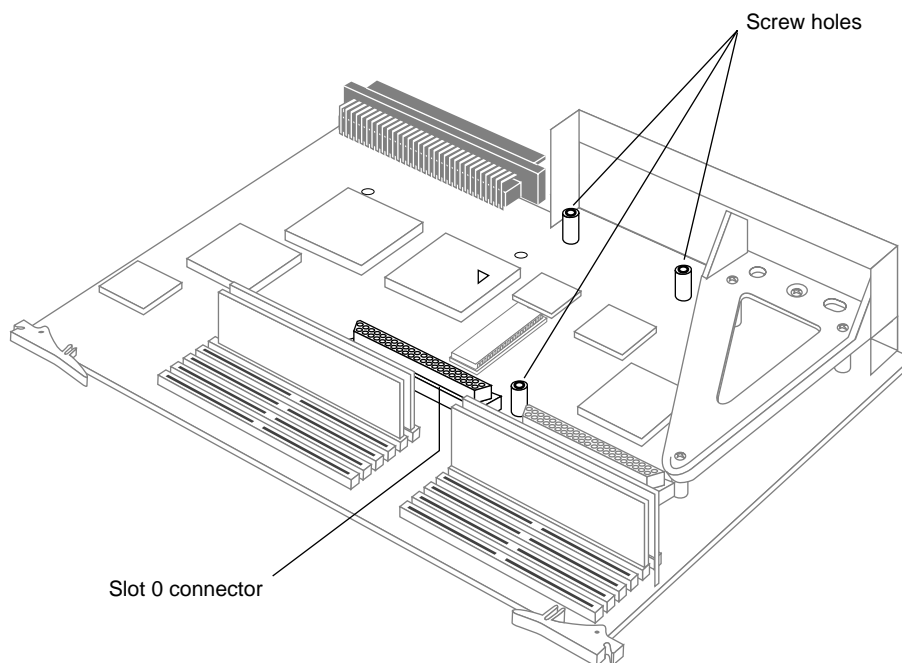

Figure 7 CPU Board With Option Slot 0 Filler Removed
1. Orient yourself to the CPU board, as shown in Figure 7, so that the I/O connector panel faces away from you and the levers face toward you.
2. Locate the 96-pin, female option slot connector labeled "Slot 0 Connector" in Figure 7.